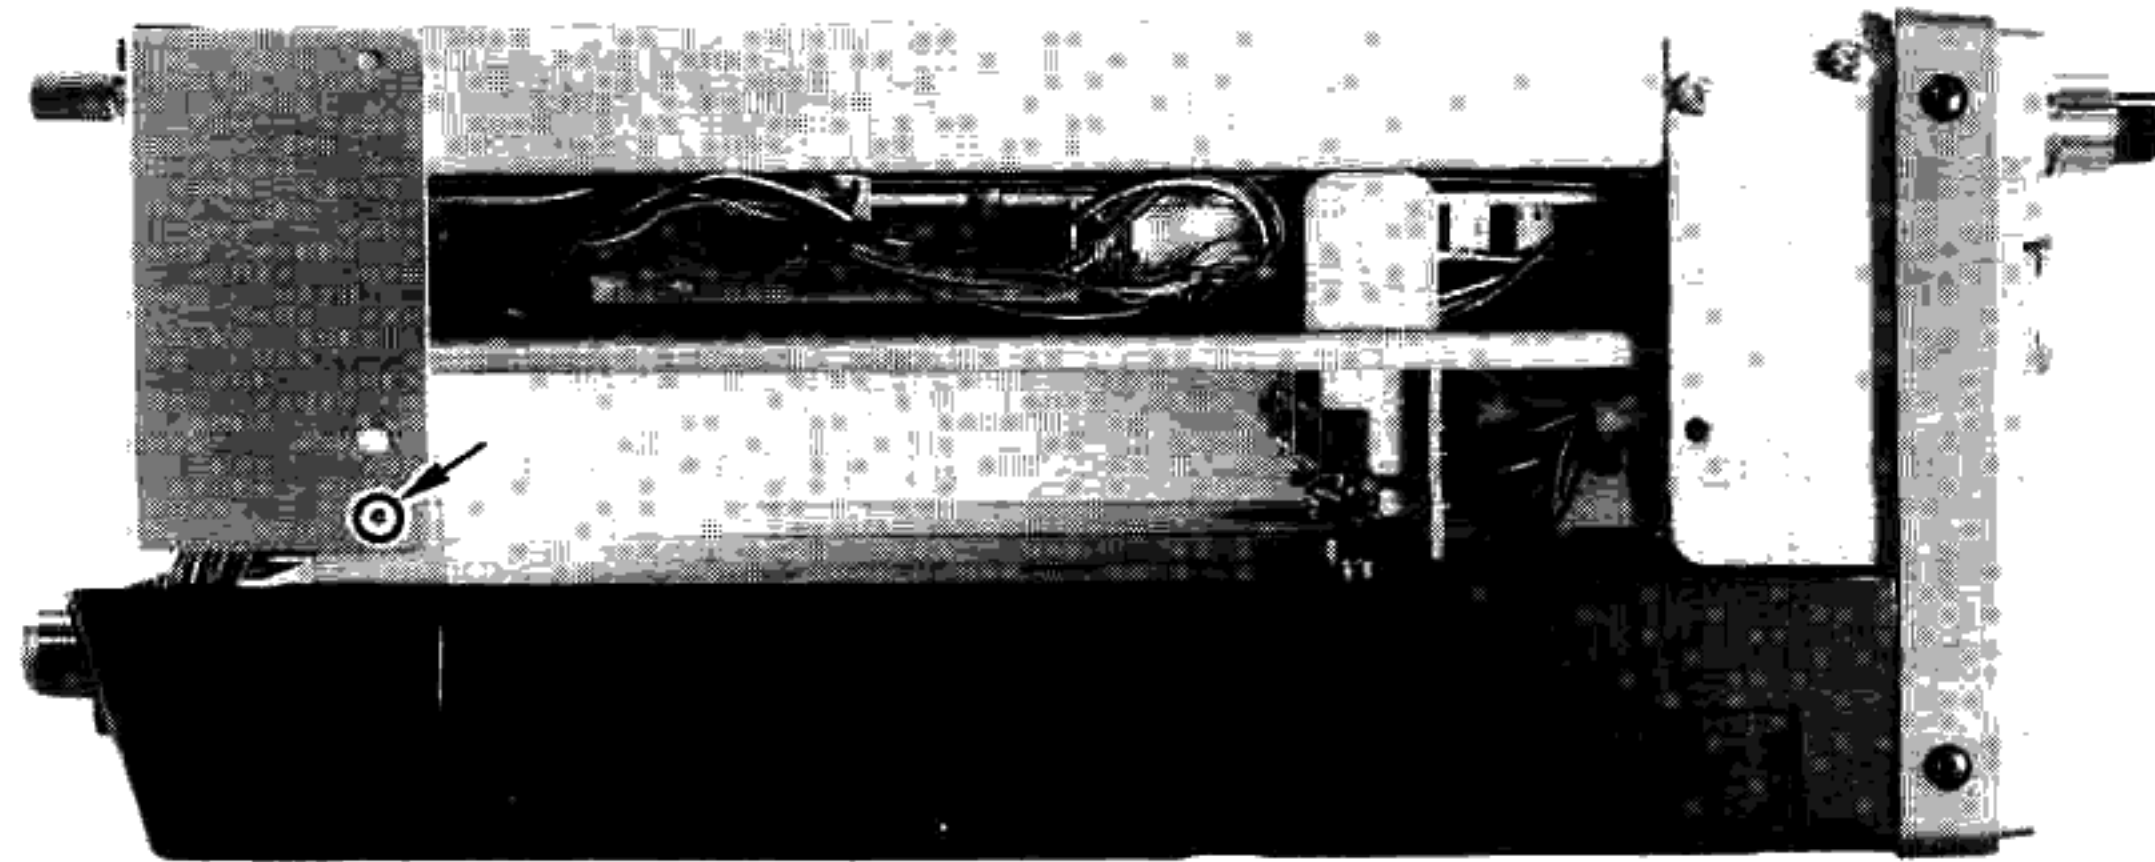
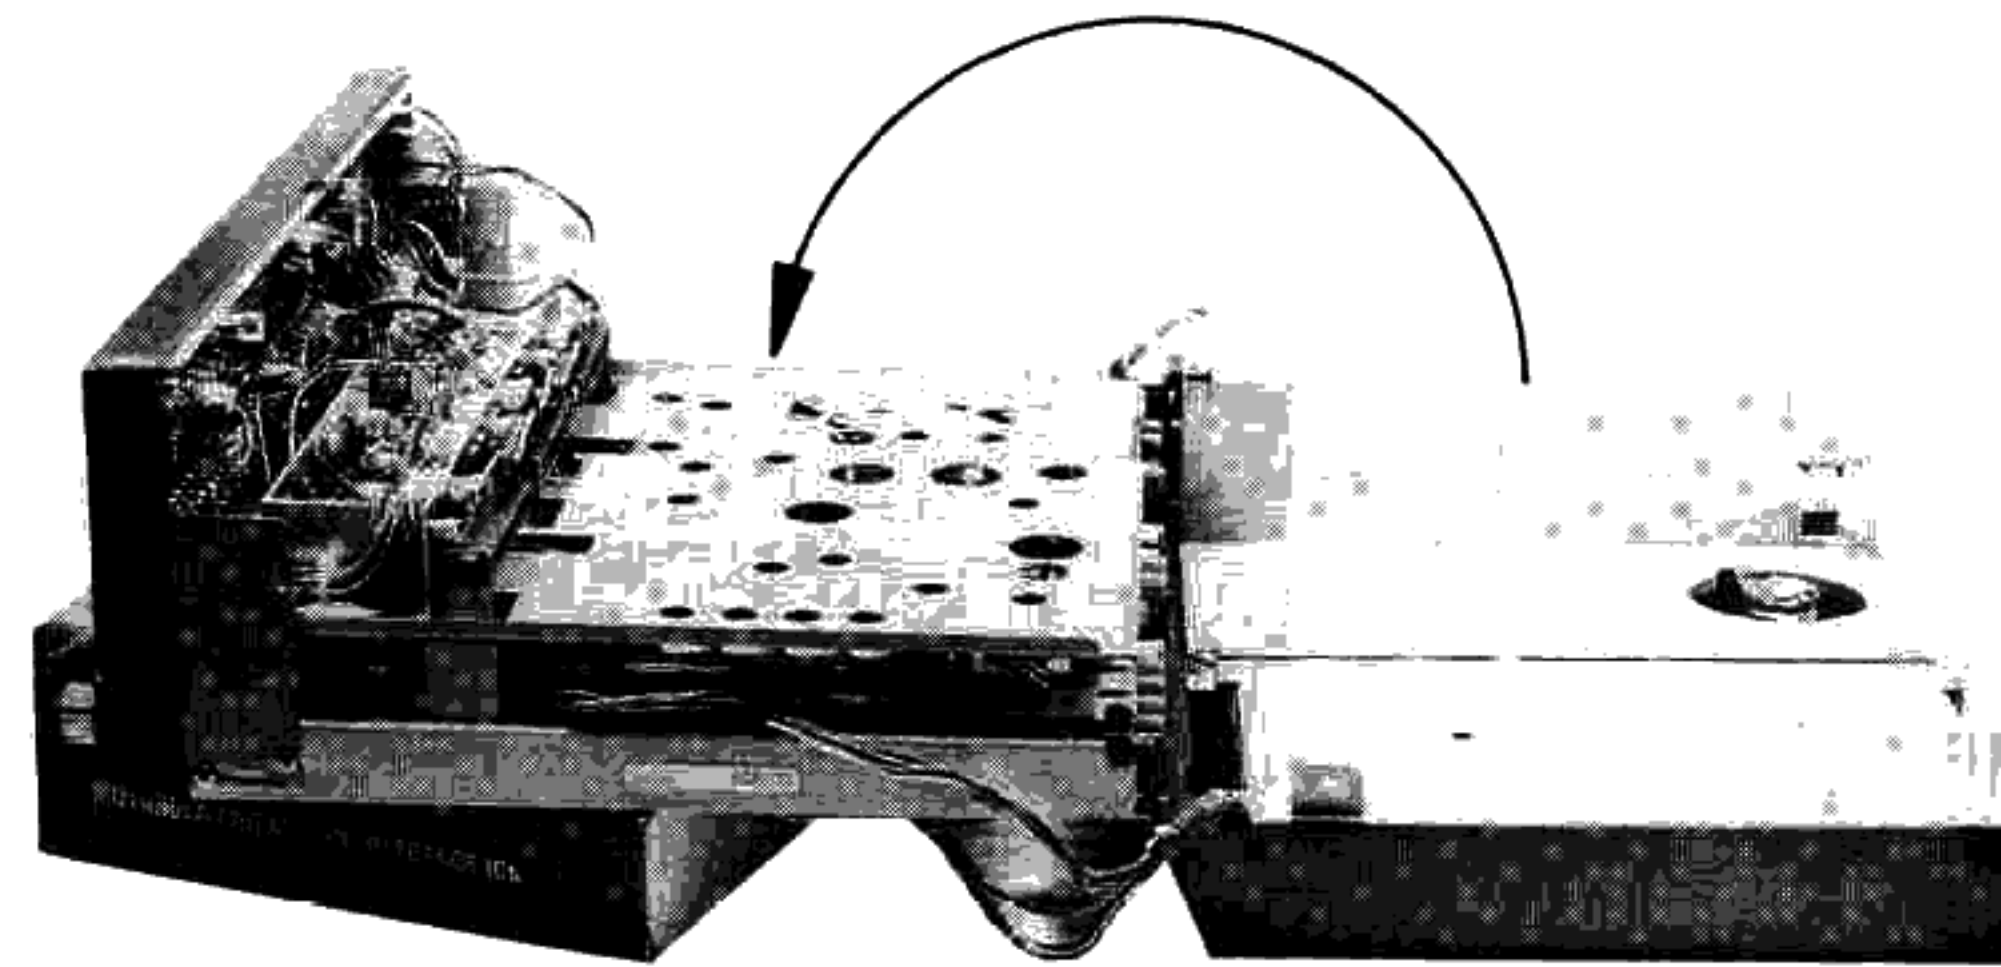

Figure 6
Figure 8
- (7) Remove one screw on either side, as shown in Figure 6.
- (8) Locate the white molex connectors (one for power and one for the speaker) inside the rear of the chassis, and disconnect them.
- (9) Fold the lower half of the chassis away from the upper half, placing a book of about the same thickness of the heatsink under the bottom half as shown in Figure 8.